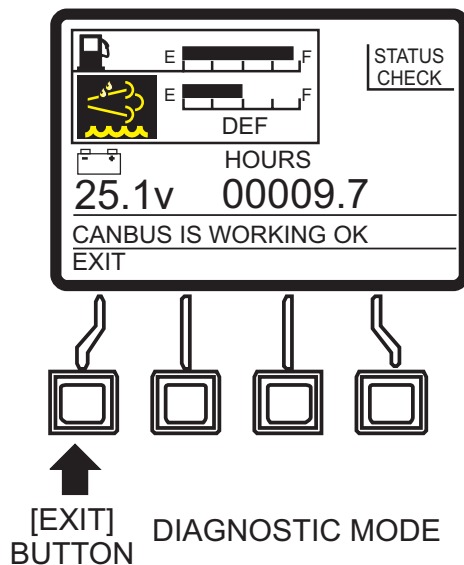

Figure 78. Status Check Screen (Diagnostic Mode)
2. Exit the Status Check Screen by pressing the **[EXIT]** button (Figure 78).